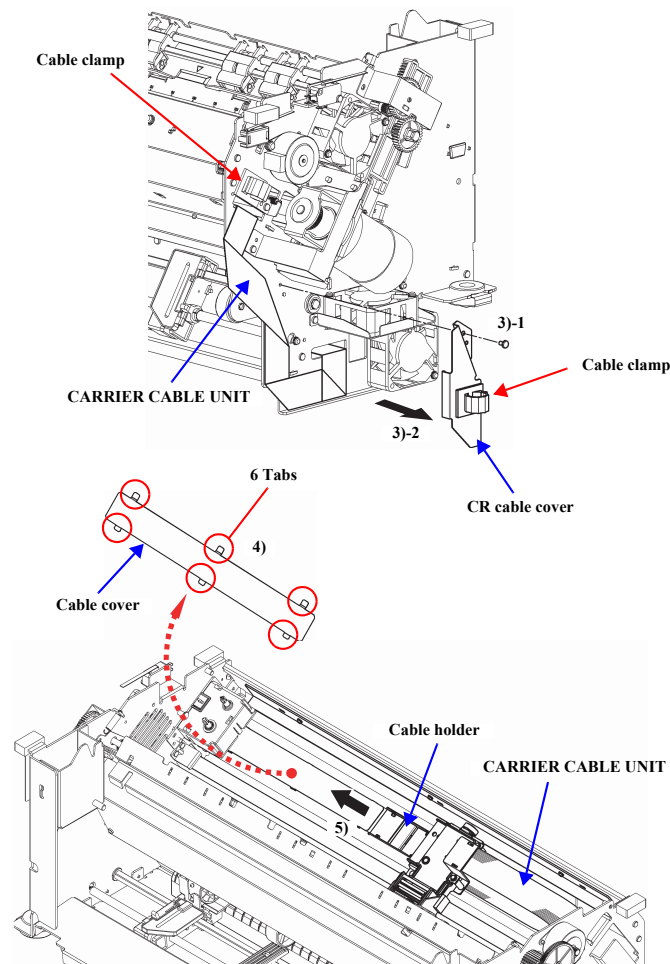

Figure 4-71. CARRIER CABLE UNIT Removal (1)
5. Slide the Cable holder to the left, as shown by the arrow in Figure 4-71, and remove it.